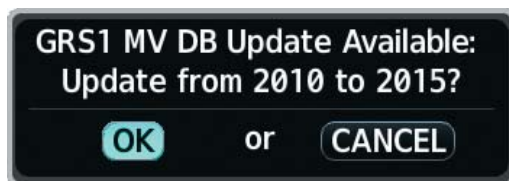
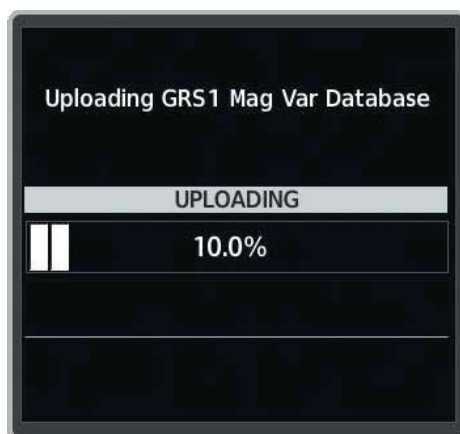

Figure B-13 GRS1 Magnetic Field Variation Database Update Prompt
Figure B-14 Uploading Database to GRS1
A copy of the current magnetic field variation database (MV DB) is included with the navigation database. At startup, the system compares this version of the MV DB with that presently being used by each AHRS (GRS1 and GRS2). If the system determines the MV DB needs to be updated, a prompt is displayed on the MFD, as shown in Figure B-13. Note, in the following example, GRS1 is the first AHRS to indicate an update is available. In actuality, this is dependent on which AHRS is the first to report status to the system. GRS2 may be displayed before GRS1. The order is not important, only that both AHRS be updated.
- 1) With 'OK' highlighted, as seen in Figure B-13, press the **ENT** Key on the MFD. A progress monitor is displayed as shown in Figure B-14.